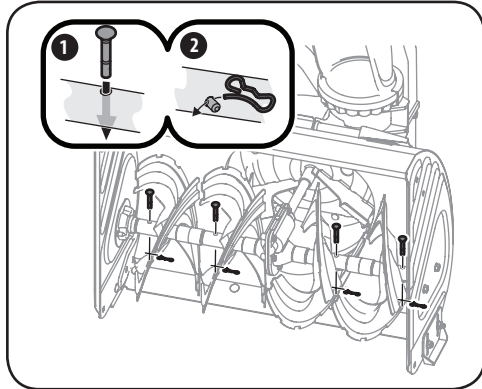

Figure 5-5
1. Replace the shear pins as shown in Figure 5-5.